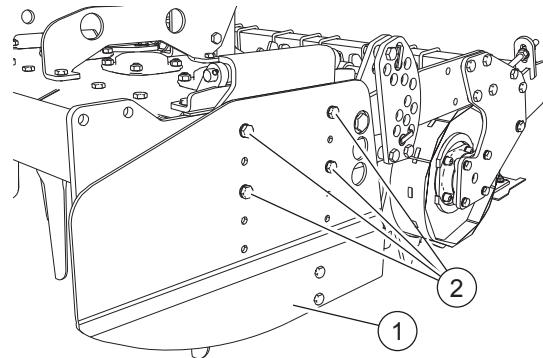

FIG. 34
Loosen screws (2, "Fig. 34"). Raise and lower the side shield (1). Tighten screws (2).